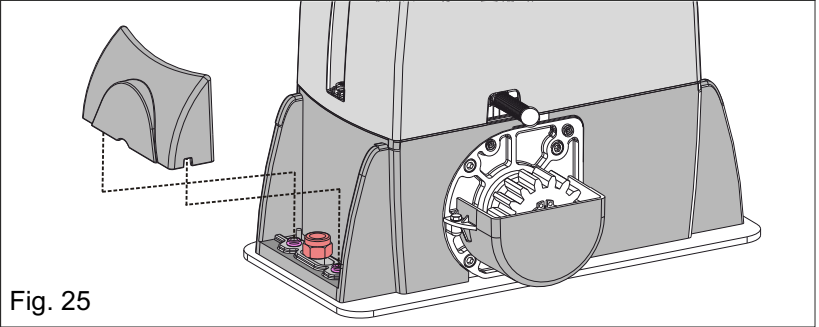

Fig. 25
- 11.1.** At the end of the mechanical installation and after carrying on all the required adjustments, mount the two screw-covers on the operator, as shown in Fig. 25